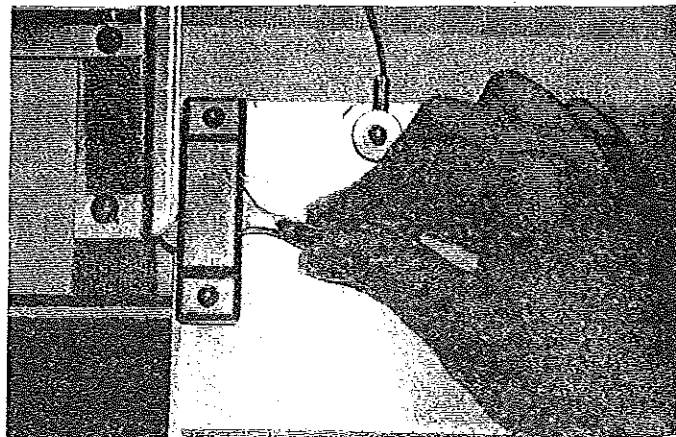

FIGURE 22
27. On Americana series, rotate the hinged top door plate to vertical position and lock in place with the two swivel latches. (Pioneer series has rigid plate.) See Figure 22.